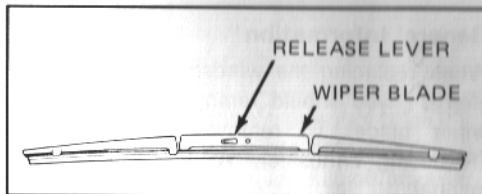

Figure 1 - Wiper blade release lever
- Locate the release lever, which is located approximately in the middle of the blade. See Figure 1.